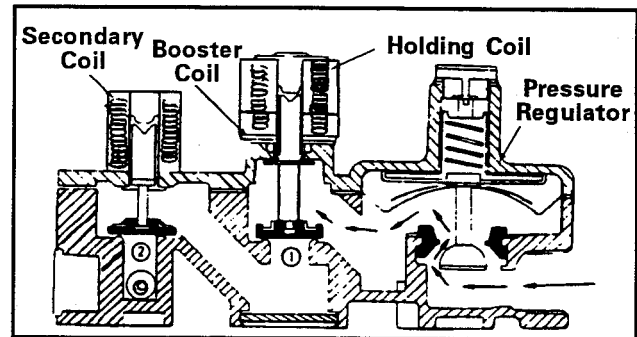

Figure 8-2
**Gas Valve** - The gas valve is actually two gas valves, one in series with the other, (See Figure 8-2).